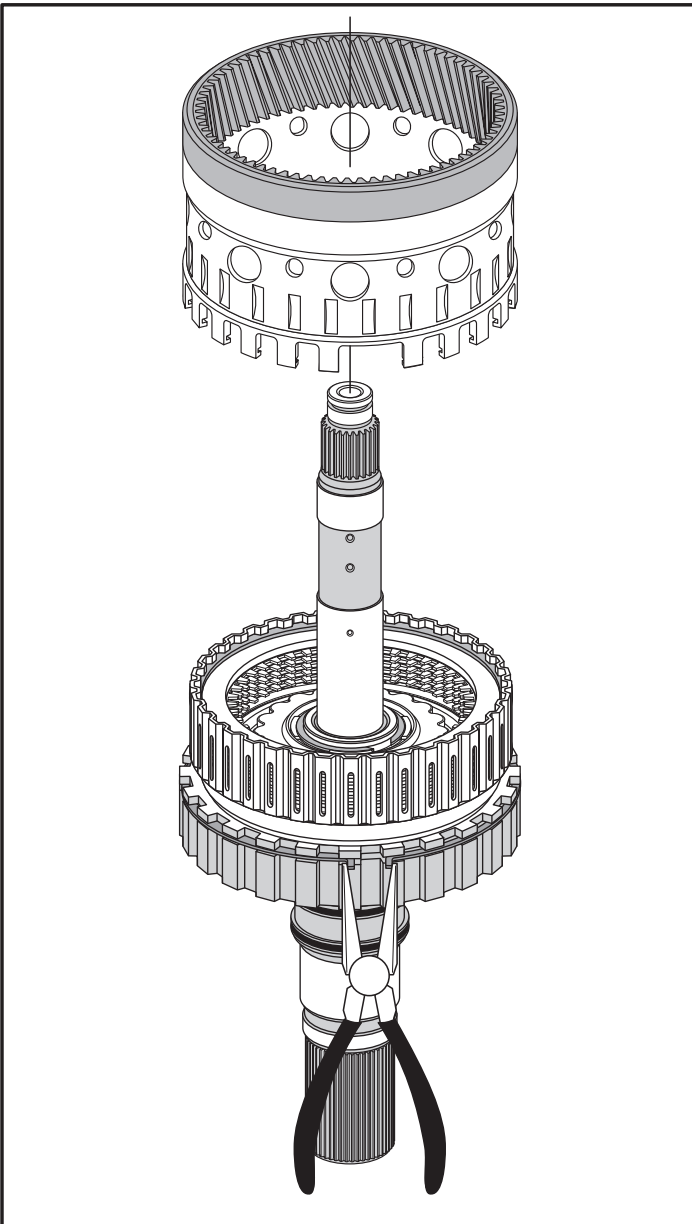

Figure 69
63. Squeeze the internal snap ring together using a pair of needle nose pliers, as shown in Figure 69, to release the rear planetary ring gear.